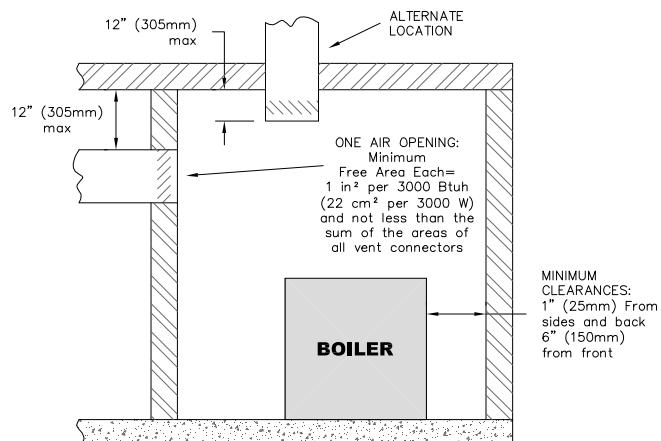

Figure 1.8: Air Openings – All Air from Outdoors through One Opening
- One Permanent Opening Method:* Provide one permanent opening beginning within 12 inches (305 mm) of the top of the space. The opening shall communicate directly with the outdoors, communicate through a vertical or horizontal duct, or communicate with a space that freely communicates with the outdoors. The opening shall have a minimum free area of 1 in² per 3000 Btu/hr of total rated input for all appliances in the space and not less than the sum of the cross-sectional areas of all vent connectors in the space. The gas-fired equipment shall have clearances of at least 1 inch (25 mm) from the sides and back and 6 inches (150 mm) from the front of the appliance. See Figure 1.8 for this arrangement.